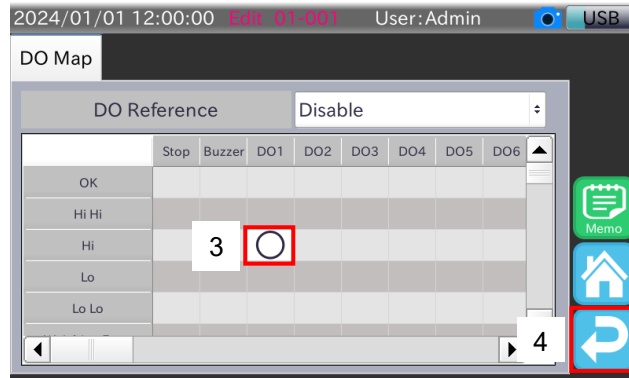

Fig. 51 DO Map settings (e.g. DO map check)
E.g. If you want to output a signal from DO1 when an Hi judgment is made, touch the square mark in Fig. 51. Touch the check box until "O" is displayed for lighting output, and "◎" is displayed for blinking output.